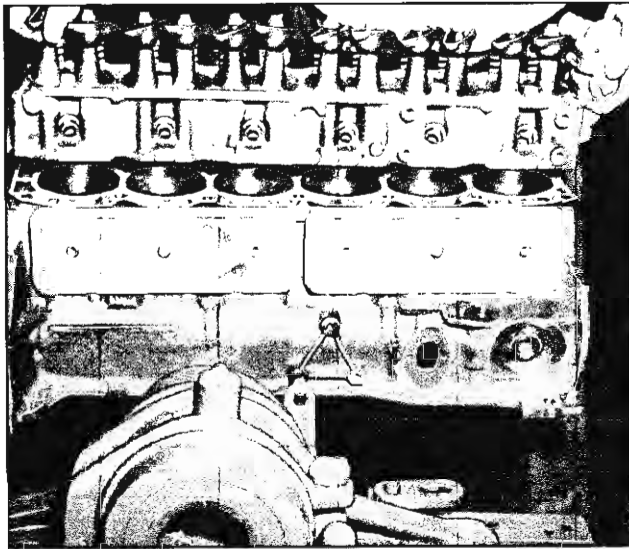

Fig. 23—Installing Cylinder Head
2. Carefully guide cylinder head into place over dowel pins and gasket (fig. 23).